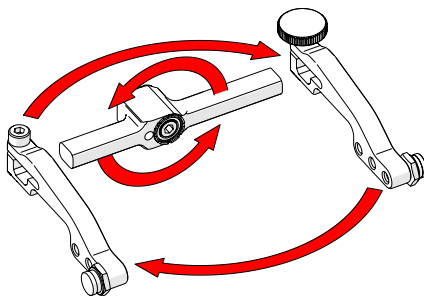

Fig. 139 - Flip yoke and reverse arms
4. Flip the yoke 180° and reverse the probe holder arms (Fig. 139).